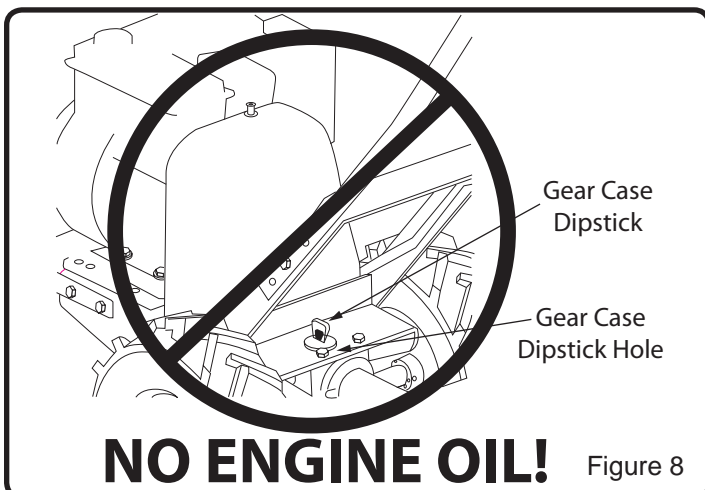

Figure 8
**NOTE:** THE TRANSMISSION CASE COMES FROM THE FACTORY WITH THE PROPER AMOUNT AND TYPE OF GEAR OIL. (See Figure 8)